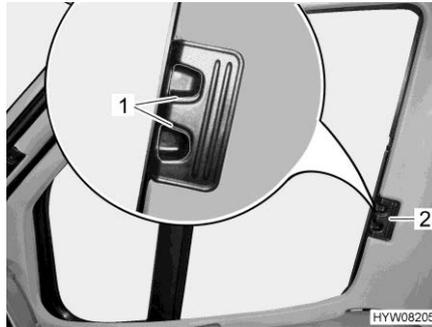

Fig. 59 Roman shade (driver's / front passenger's window)
- Press the release handles (Fig. 59,1) and hold them down.
- Using the handle (Fig. 59,2), draw the Roman shades for the driver's and passenger's window to the other side of the window and secure them to the magnetic strips.
- Use handle (Fig. 59,2) to push in the Roman shades for the driver's and passenger's window as far as possible.
- Let go of the release handles (Fig. 59,1) and let them engage.